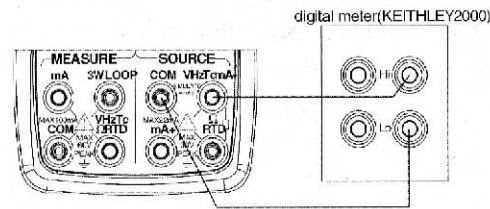

Figure 19 Adjusting voltage source
Step 1: Using the function selector switch SOURCE (FUNC), select DC voltage function. Connect the lead cables for measurement to the standard digital meter as shown in Figure 19.